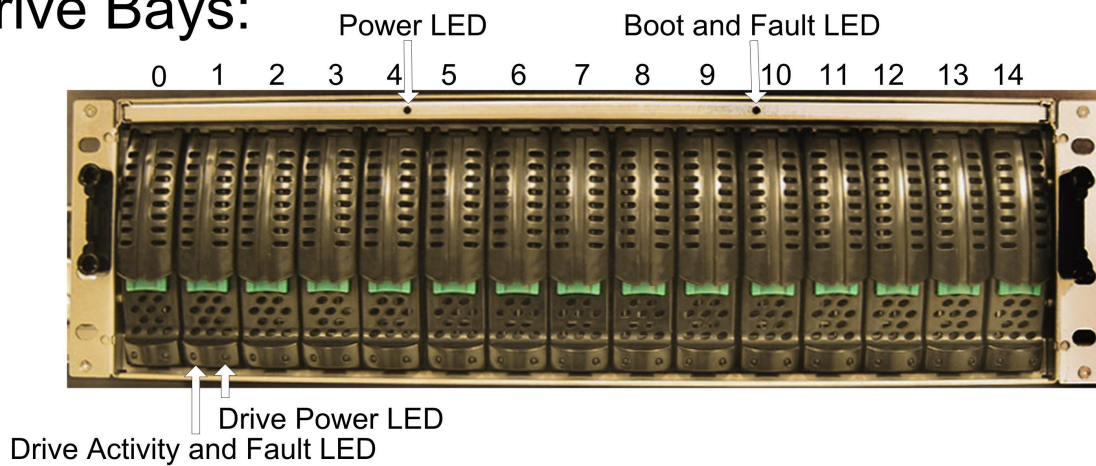

Figure 2-1 Front View of the DSN-3000 Series Storage System
- Power LED - shows the DSN-3000 series power on status. (see Figure 2-1 and Table 2-1)
- Boot and Fault LED - shows whether the DSN-3000 series is ready for operation or encountered a fault condition. (see Figure 2-1 and Table 2-1)
- The hard drive power and drive activity/fault LEDs. (see Figure 2-1 and Table 2-2)